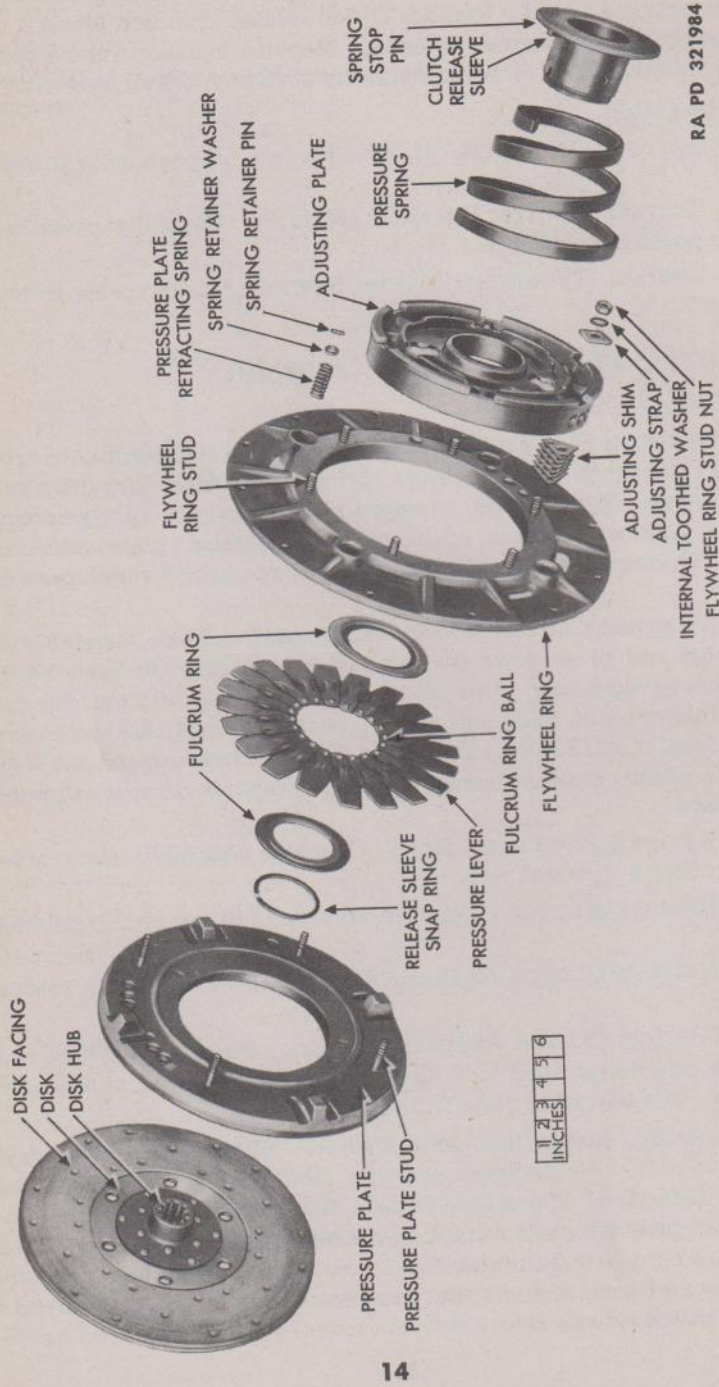

Figure 4 — Clutch Disassembled
- (1) **INSTALL OIL WICK.** Insert wick into oil passage in trunnion block.
- (2) **INSTALL CLUTCH RELEASE BEARING.** Carefully press bearing into position on trunnion block.
- (3) **INSTALL TRUNNION RETURN SPRING.** Attach spring to trunnion block.
8. CLUTCH PRESSURE PLATE ASSEMBLY.**a. Disassembly (fig. 4).**
c. Assembly (fig. 4).
a. Disassembly (fig. 4).
(1) **INSTALL DISK FACINGS** (fig. 4). Place the 2 facings on clutch disk. Rivet facings to disk with 30 clutch disk facing rivets. Make certain all rivets are pressed to a uniform thickness. Rivets must be below surface of facings on both sides of disk. Examine disk to be certain it has not been bent or distorted during riveting operation. Replace disk if bent or distorted.